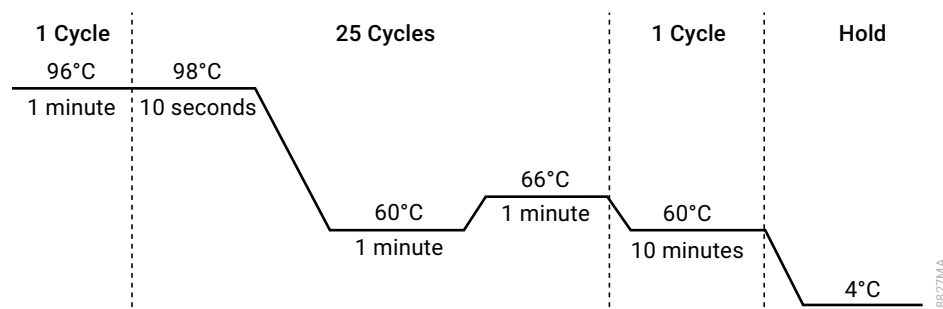

Figure 28. Thermal cycling protocol for Mastercycler® X50s PCR System.
2. Select and run the protocol provided below and in Figure 28. The total cycling time is approximately 75 minutes.